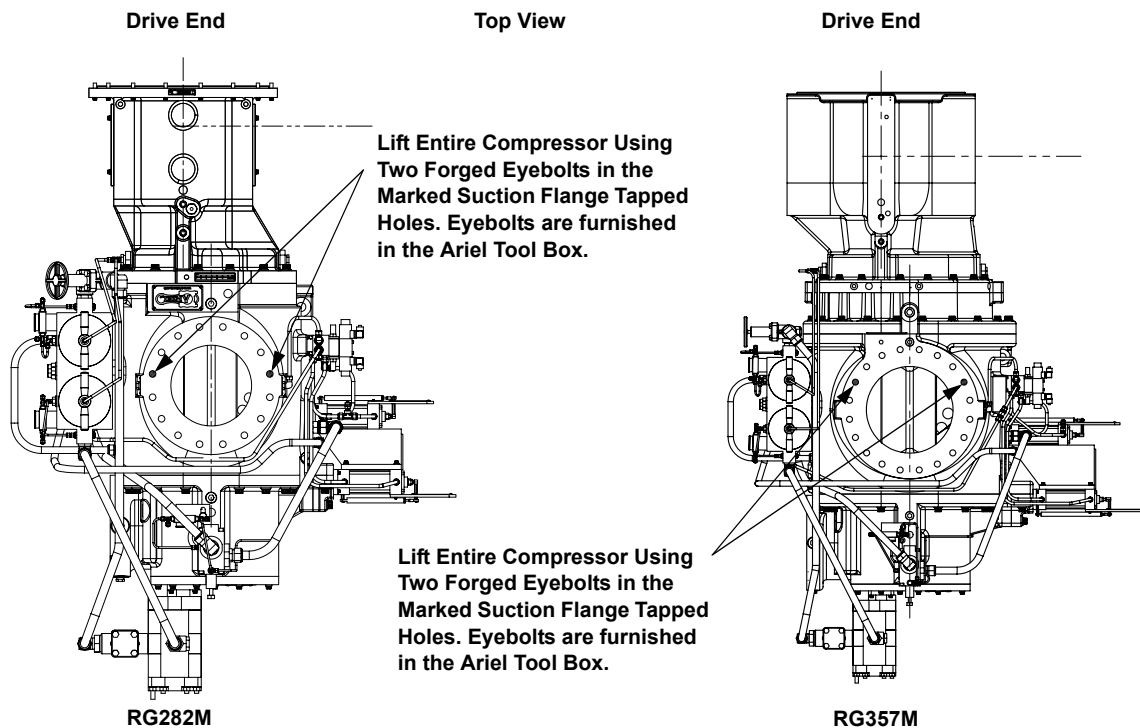

FIGURE 2-3 LIFTING POINTS FOR COMPRESSORS WITH BELL HOUSING
2. Lift the compressor with an overhead crane using the forged eyebolts supplied in the Ariel toolbox. Maintaining compressor balance, near to level, will facilitate setting the compressor. Refer to Figure 2-3 for the compressor's required lifting points. See the compressor outline drawing for the compressor's center of gravity.